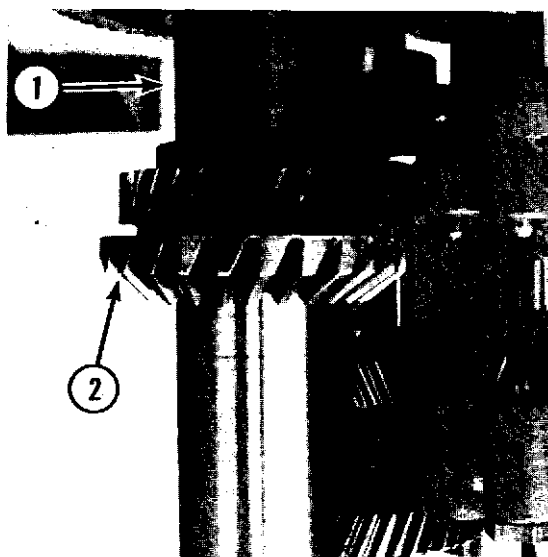

Fig. 11-7
- U. Remove the spacer (1, Fig. 11-7) and gear cluster (2, Fig. 11-7) from the planetary shaft.